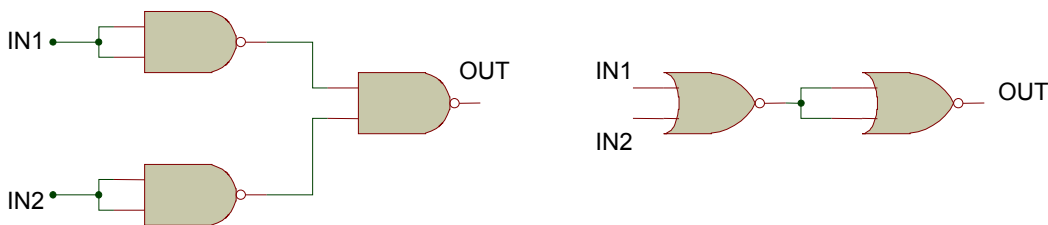

**Figure 3.2 AND gate**
- Build the circuit of the figure 3.2 to verify working as AND gate and complete the truth table 3-4